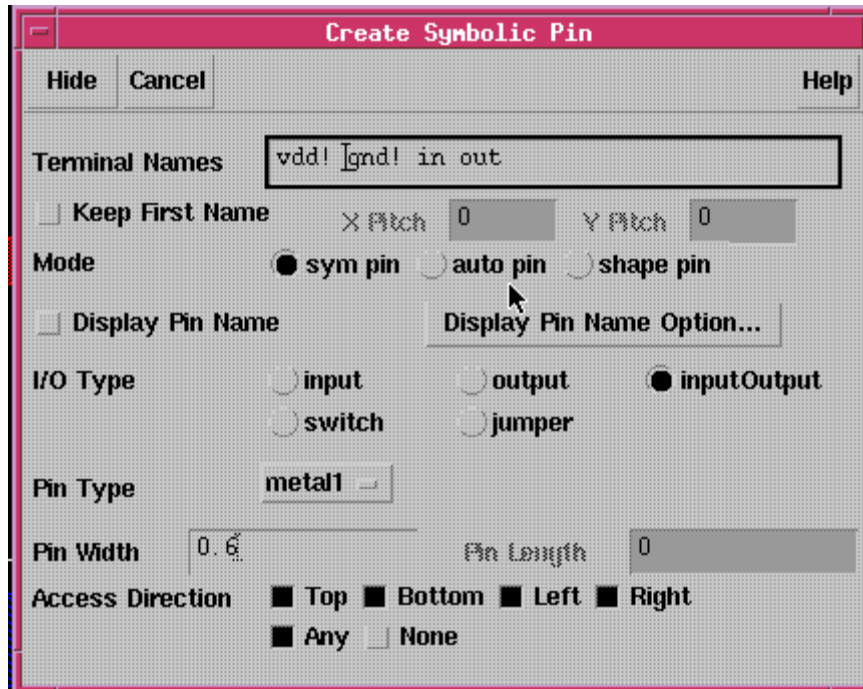

Fig. 15. Pin Creation
- Go to **Create --> Pin...** in the *Layout Editing* window and fill out like in Fig. 15.